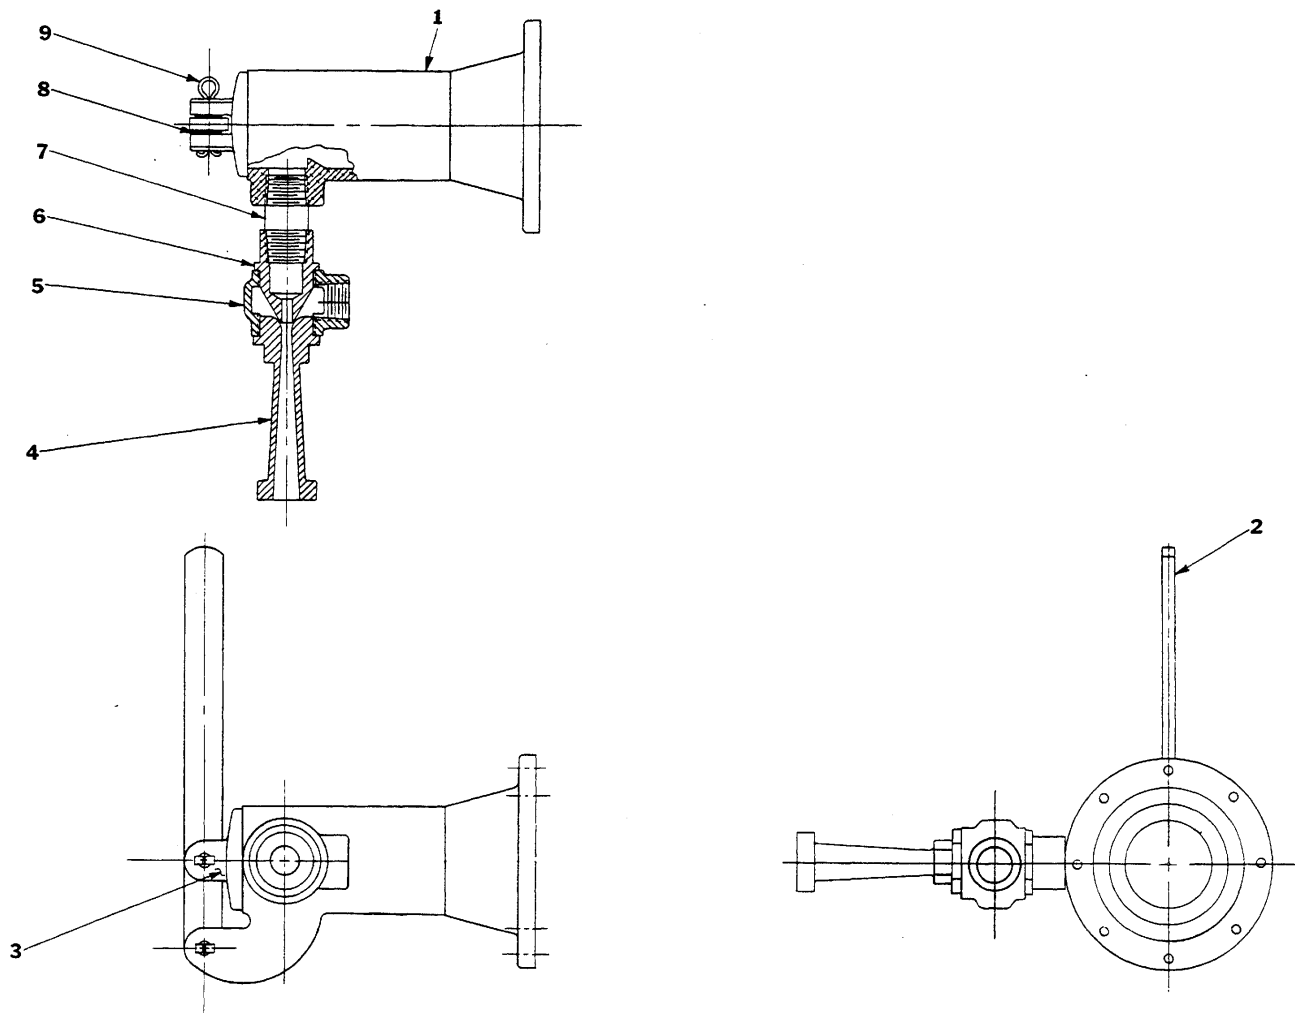

Figure 3. Exhaust Primer Detail
To separate the exhaust primer body (7) from the spark arrestor and muffler (8 and 12), remove the hardware (10 and 11). Retain the gasket (9). To disassemble the exhaust primer, refer to Figure 3, remove the valve handle, and unscrew the various primer components.